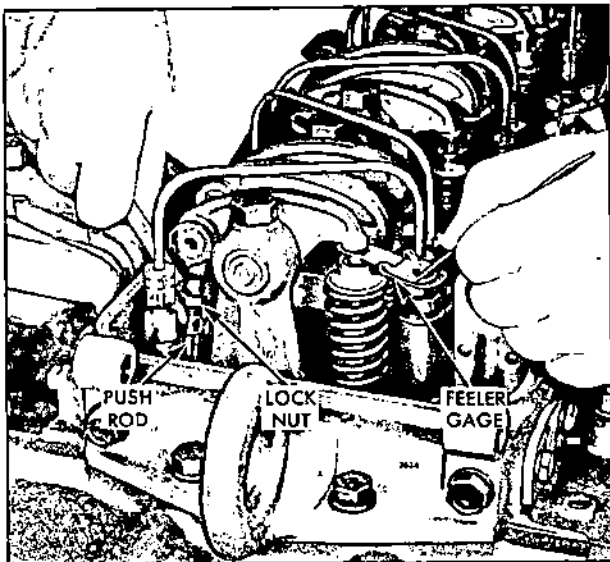

Fig. 1 - Adjusting Valve Clearance
4. Place a .013" feeler gage, tool J 9708, between the valve stem and the rocker arm (Fig. 1). Adjust the push rod to obtain a smooth "pull" on the feeler gage.